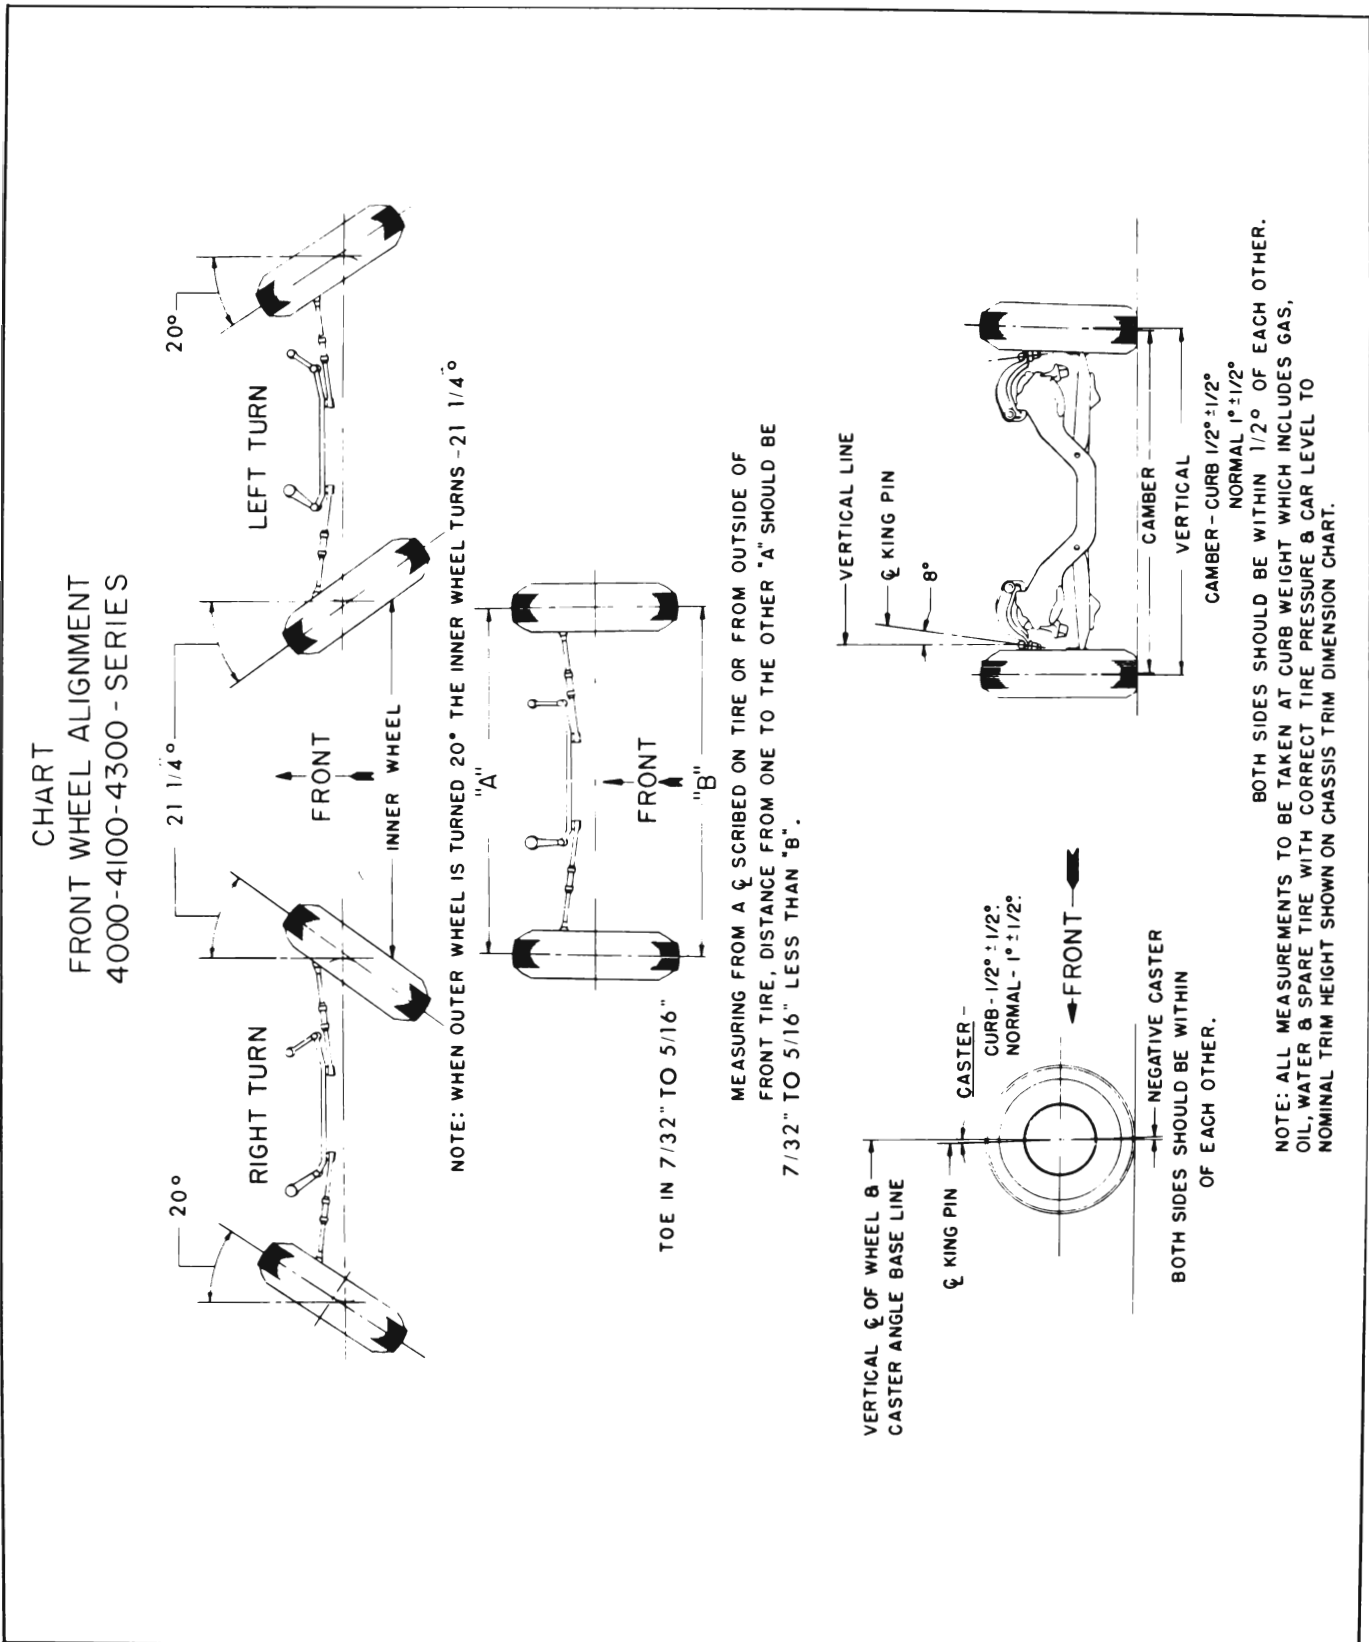

Figure 7-26—Front Wheel Alignment
Readings must be taken at points which have no run-out or which lie in the same plane. Caster and camber should be within limits shown in Figure 7-26. Note that the caster angles at both front wheels need not be exactly the same but must be within 3/4 degrees of each other. Likewise, the camber angles on both sides must be within 3/4 degrees of each other. If caster and camber are not within the specified limits, adjust as described below.
With camber known to be within specified limits, theoretical king pin inclination should check within specified limits given in Figure 7-26.
3. Using a suitable toe-in gauge, measure the distance between outside walls of tires at the front at a height approximately horizontal to floor and through the centerline of the wheel assembly. See Figure 7-26.
The measurement at the front (dimension "A") should be 7/32" to 5/16" less than the measurement at the rear (dimension "B"). See Figure 7-26.
1. With the front wheels resting on full floating turntables, turn wheels to the right until the outside (left) wheel is set at 20 degrees. The inside (right) wheel should then set at 23 degrees 40 minutes. See Figure 7-26.